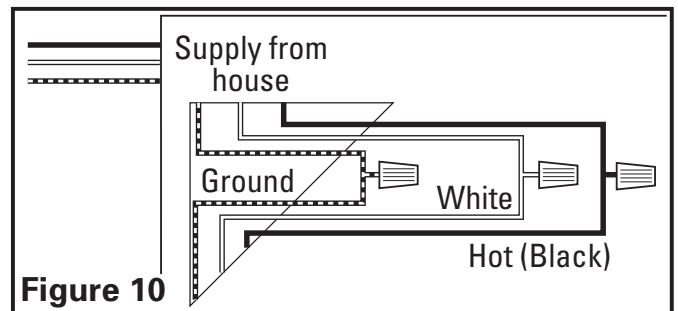

Figure 10
- From where you have chosen to access the fan's junction box, connect the white wire from the house to the white wire from the fan's receptacle. Connect the black wire from the wall switch to the black wire from the fan's receptacle. Connect the ground wire from the house to the green wire from the fan housing (Figure 10). Use approved methods for all connections.